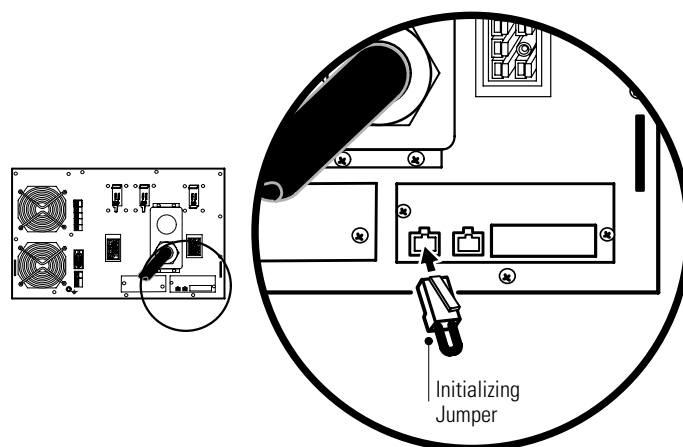
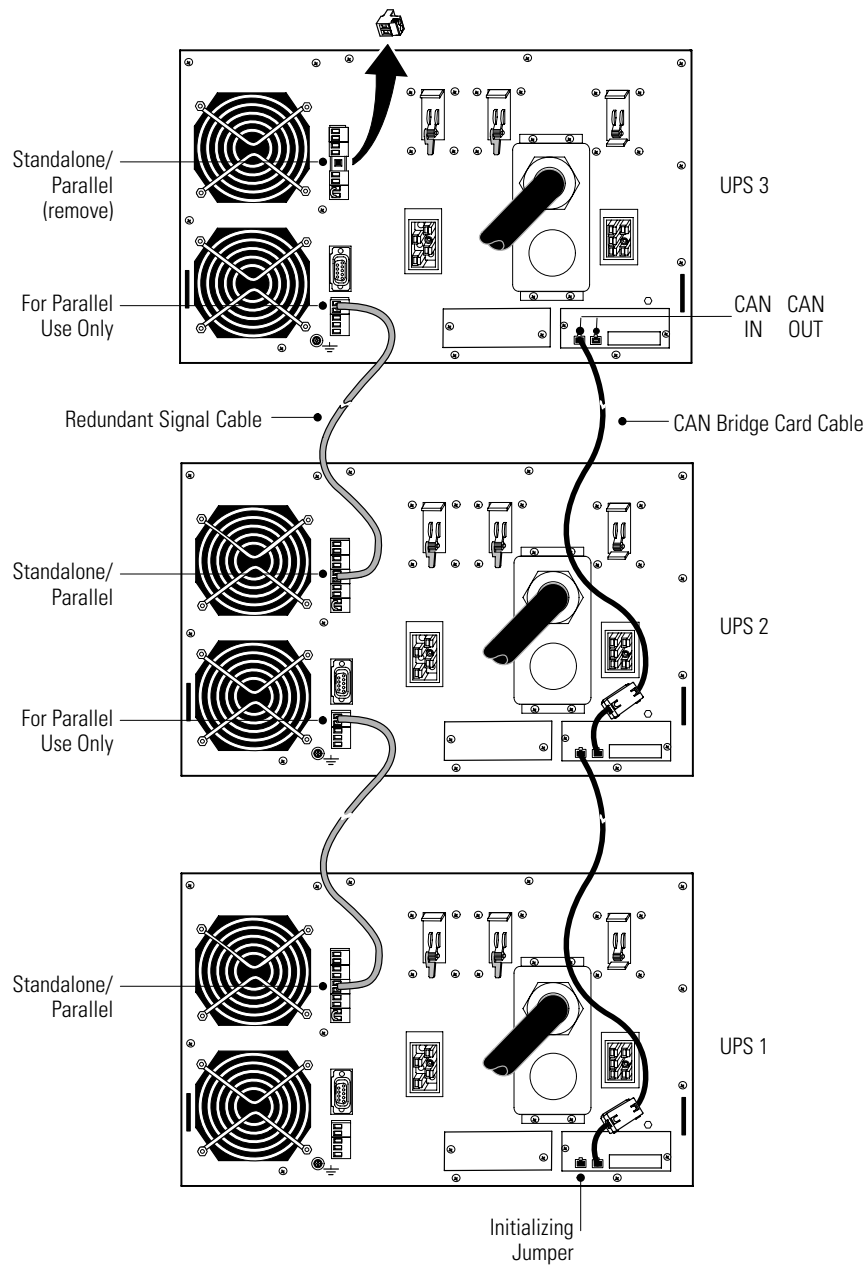

Figure 33. Installing the Initializing Jumper
Figure 34. Typical CAN Bridge Card and Redundant Signal Wiring
9. Install the supplied initializing jumper (see Figure 33) into the CAN IN port on the first UPS (UPS 1 in Figure 34).
10. Using the supplied connectors, install a CAN Bridge Card cable between each UPS as shown in Figure 34, connecting the CAN OUT port on one UPS to the CAN IN port on the next UPS.
NOTE You can configure the parallel system with UPS 1 at the bottom of the rack (as shown in Figure 34) or at the top of the rack.
11. Install a redundant signal cable between the For Parallel Use Only and Standalone/Parallel terminals on each UPS as shown in Figure 34. Remove the existing terminal block connectors before installing the cable.
12. Remove the Standalone/Parallel terminal block connector from the last UPS (UPS 3 in Figure 34).